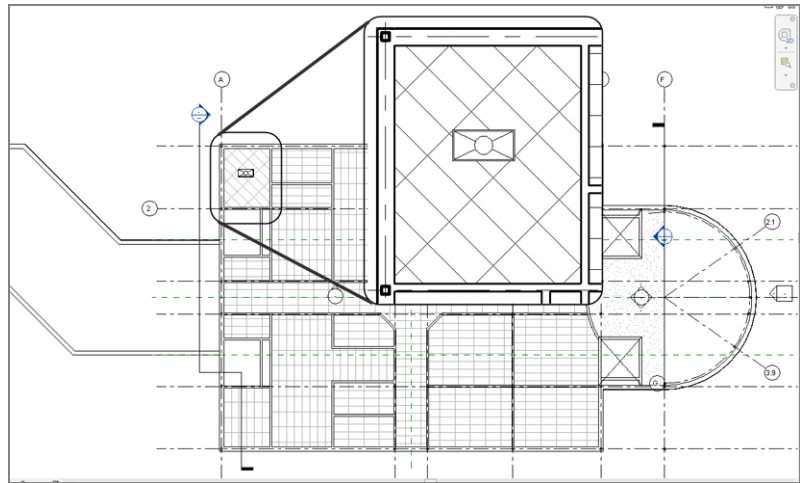

FIGURE 9.46: Placing a light in a ceiling. You'll align it to the grid in a moment.
2. Zoom in on the northwest corner of the east wing, as shown in Figure 9.46.
7. Click the Place A Component button; then place the fixture in your ceiling (see Figure 9.46).